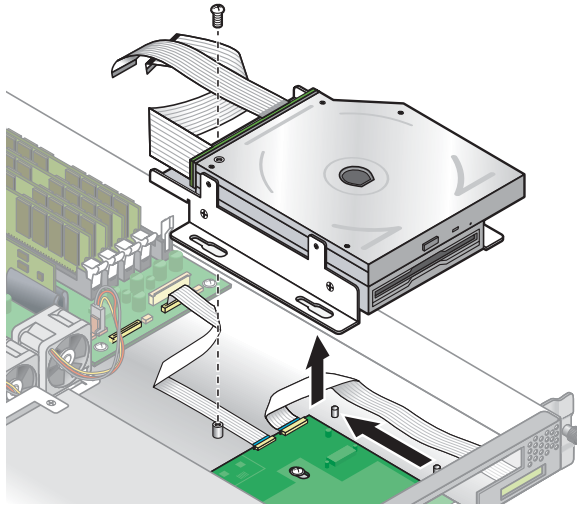

FIGURE 4-14 Removing the CD-ROM/DVD/Diskette Drive Assembly
3. Unfasten the single screw securing the CD-ROM/DVD/Diskette drive assembly to the chassis (see FIGURE 4-14).